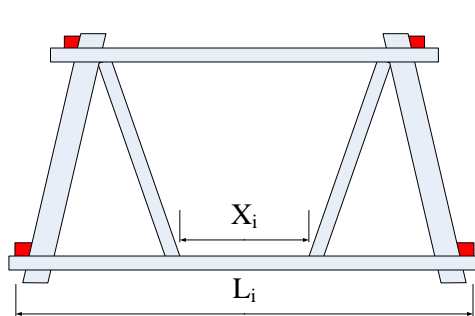

Figure 8a
4.7.4 When the elevation of a floor in a certain direction is a trapezoid and the bottom side is wider than the top side (Figures 8a and 8b),  $L_i$  is the length of the bottom side. The corresponding  $X_i$  is the clear length of the bottom floor perimeter, which is not occupied by the downward projection of bracings, walls and inclined columns.